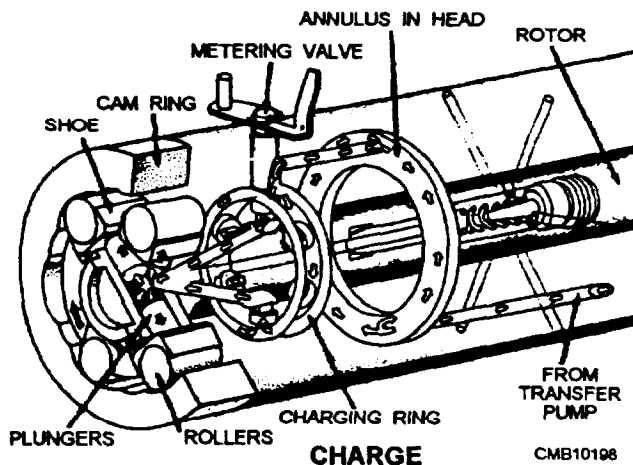

Figure 5-15.—Rotor in charge position.
- Rotation of the rotor by the drive shaft of the pump aligns the two inlet passages of the rotor with the charging ports in the charging ring, thereby allowing fuel to flow into the pumping chamber (fig. 5-15).